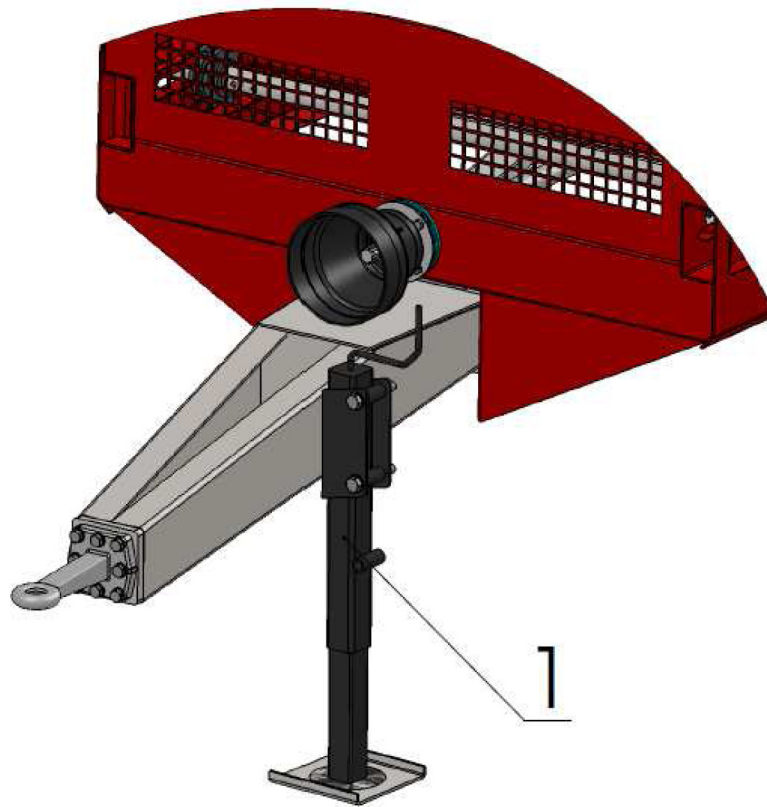

Fig. 2. N274 spreader support.
Before disconnecting/decoupling the spreader from the tractor, first engage the machine parking brake and lower the support – see fig. 2 item 1.